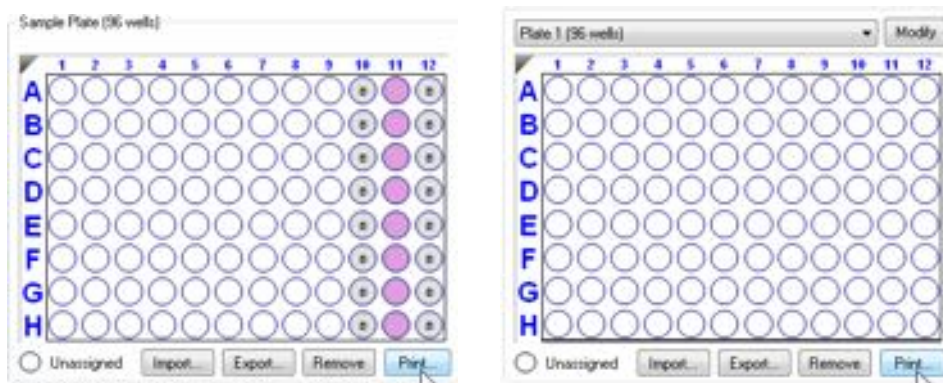

Figure 10-28: Sample Plate/Plate 1 Print Button
1. In the **Sample Plate/Plate 1 Map** (see Figure 10-28), click **Print**.